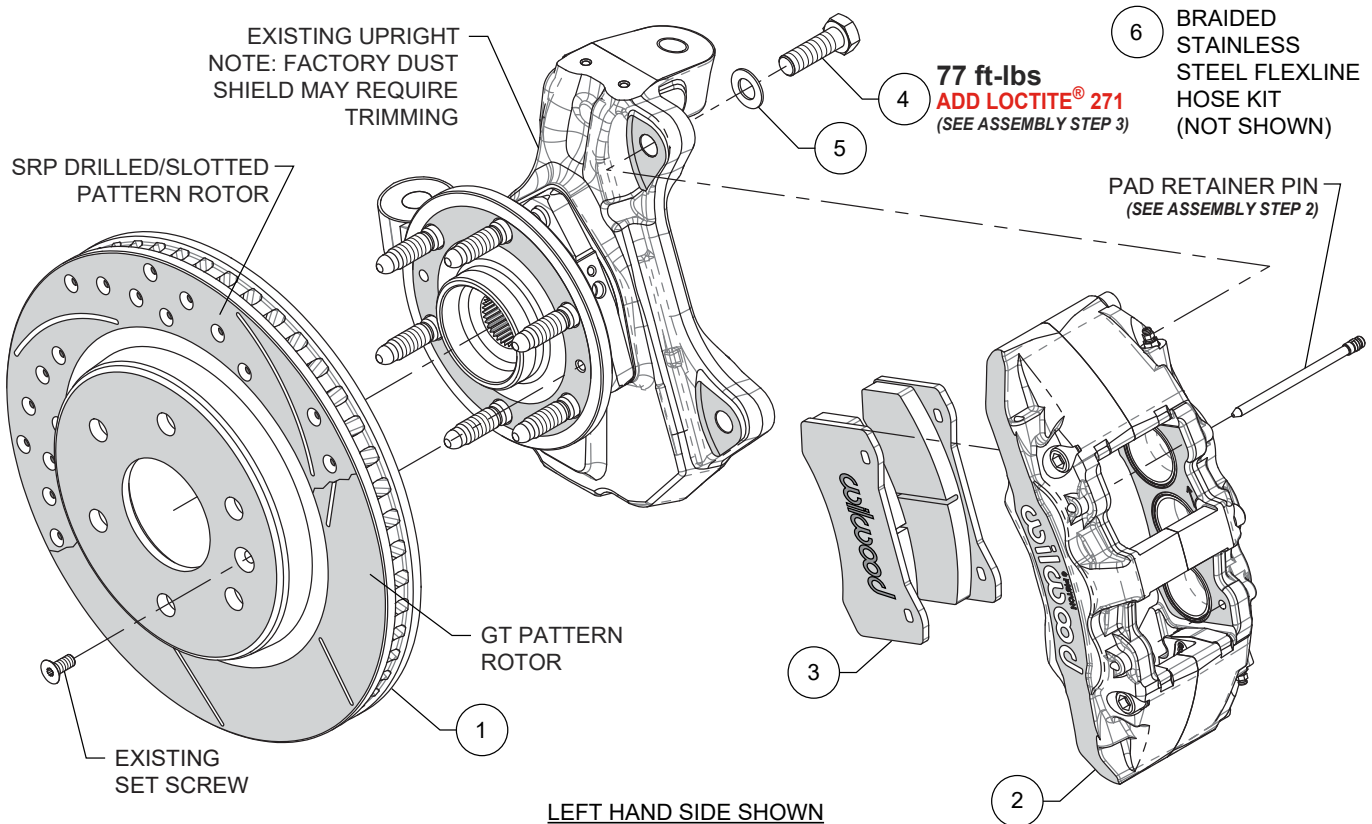

Figure 1. Typical Installation Configuration
Numbers in parenthesis refer to the parts list and Figure 1 on the preceding pages.
**STEP 1** Slide the rotor (1) onto the hub. **NOTE:** The rotor must fit flush against the hub flange or excessive rotor run out may result. Install the OEM set screw to keep the rotor in place while continuing with the installation, Figure 1 and Photo 1.
**STEP 2** Remove the two pad retaining pins from the caliper (2). Insert the brake pads (3) into the caliper, with the friction material facing the rotor, as shown in Photo 2. Secure the brake pads in place with the pad retaining pins, Figure 1 and Photo 3. **CAUTION:** Ensure pad retaining pins are completely engaged into caliper, Photo 4. It is recommended to use a small flat punch and hammer to tap the pins in until they are fully seated.
**STEP 3** **NOTE:** This kit contains distinct right and left hand calipers that must be mounted in a specific direction, as described below. Ensure that the caliper is mounted so the largest pistons are at the rotor exit end of the caliper, in relation to the direction of the rotor. Mount the caliper (2) onto the OEM caliper mounting bosses using bolts (4) and washers (5), as shown in Figure 1 and Photo 5. Apply red Loctite® 271 to bolt threads, and torque to value shown in Figure 1.